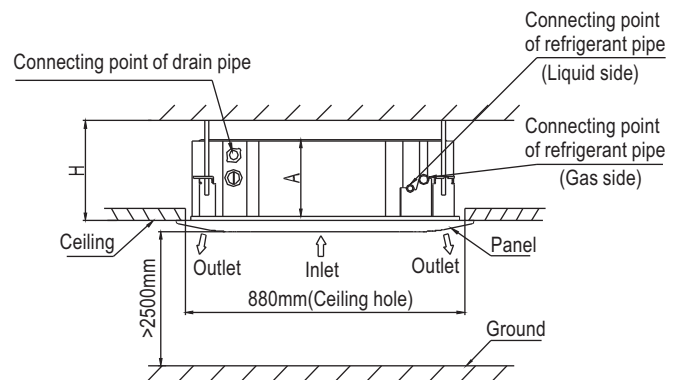

Fig.1-2
- 1 Cut a quadrangular hole of 880x880mm in the ceiling according to the shape of the installation paper board. (Refer to Fig.1-2)